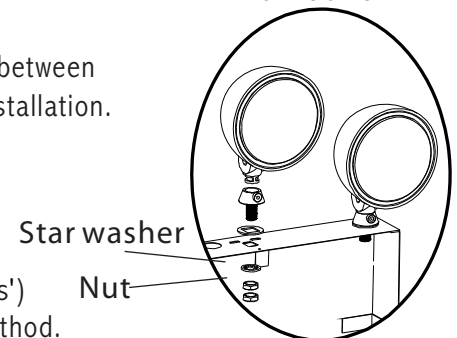

Fig 1
2. Mount the head securely with the included nut (Fig. 1).